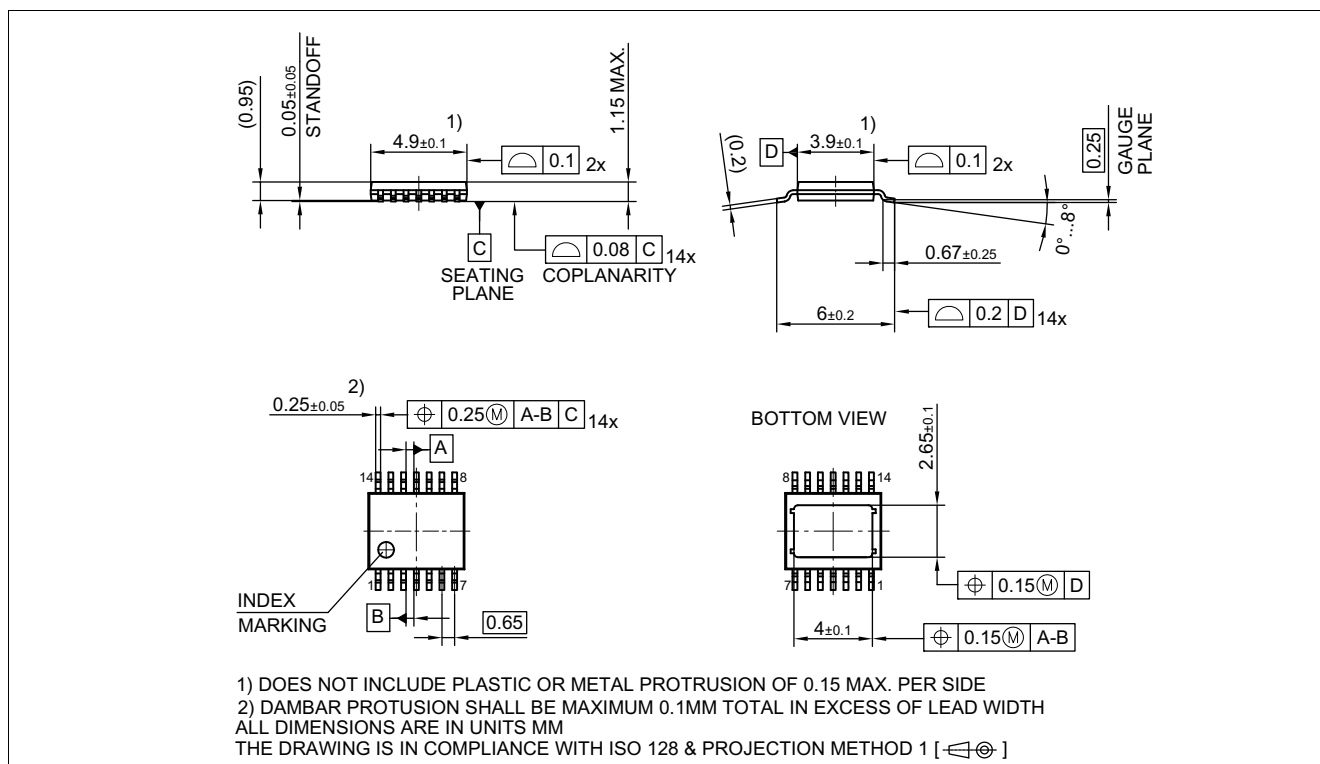
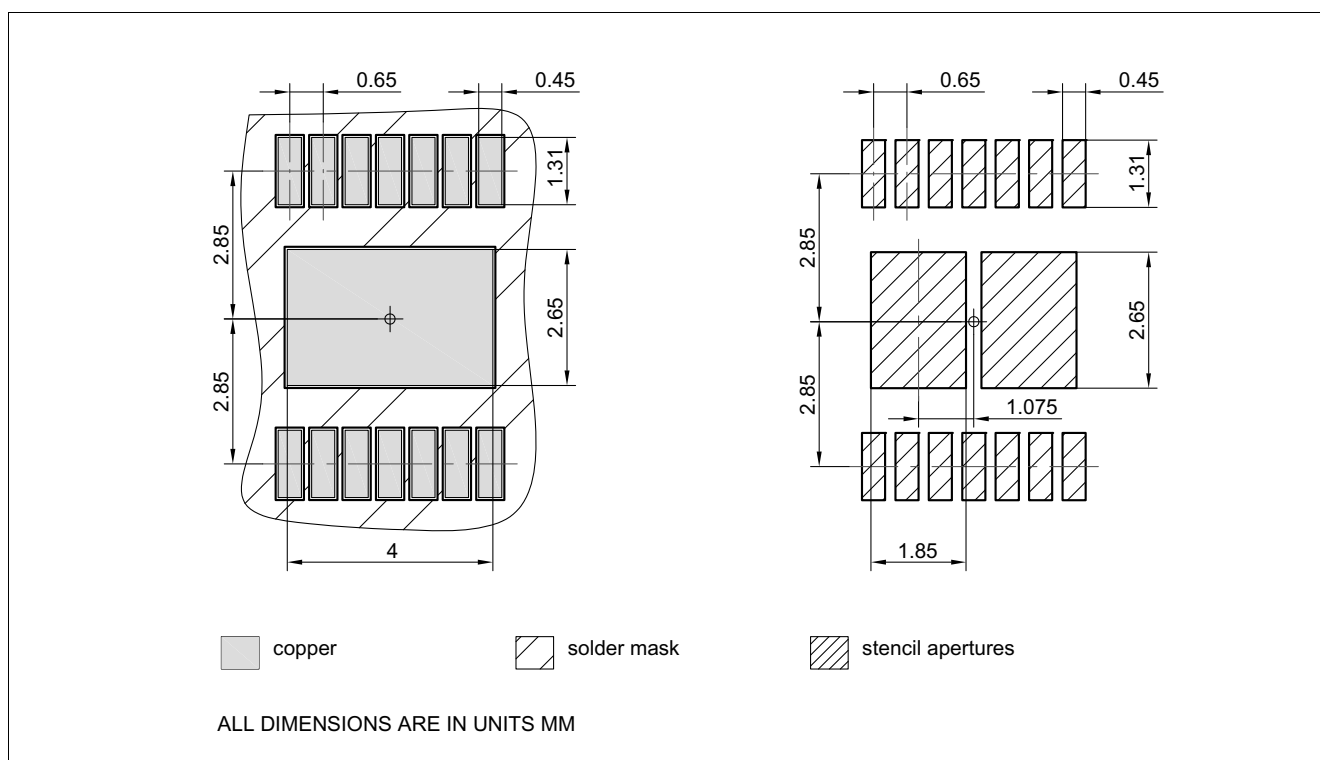

Figure 44 PG-TSDSO-14 (Thin (Slim) Dual Small Outline 14 pins) Package Outline
Figure 45 PG-TSDSO-14 (Thin (Slim) Dual Small Outline 14 pins) Package pads and stencil
1.03 , 2018-10-18	Chapter 9.3.1 updated (typo) Page 1: updated (Package PG-TSDSO-14-22 $\rightarrow$ Package PG-TSDSO-14) Figure 29 updated Figure 44 updated (PG-TSDSO-14-22 (Thin (Slim) Dual Small Outline 14 pins) Package Outline $\rightarrow$ PG-TSDSO-14 (Thin (Slim) Dual Small Outline 14 pins) Package Outline) Figure 45 updated (PG-TSDSO-14-22 (Thin (Slim) Dual Small Outline 14 pins) Package pads and stencil $\rightarrow$ PG-TSDSO-14 (Thin (Slim) Dual Small Outline 14 pins) Package pads and stencil) Table 1 updated ((Symbol: $I_{\text{VS(SLEEP)}}$ $\rightarrow$ $I_{\text{VS(SLEEP)_85}}$), (Parameter: Minimum Overvoltage protection ($T_J = 25\text{ °C}$) $\rightarrow$ Minimum Overvoltage protection ($T_J \geq 25\text{ °C}$)) P_9.6.0.6 updated (Note or Test Condition: removed unnecessary line-break) Chapter 7.4.1 updated chapter title (PROFET $\rightarrow$ PROFET™) Table 12 updated table title (PROFET $\rightarrow$ PROFET™) Chapter 8.6.1 updated chapter title (PROFET $\rightarrow$ PROFET™) Table 16 updated table title (PROFET $\rightarrow$ PROFET™) Chapter 9.5.1 updated chapter title (PROFET $\rightarrow$ PROFET™) Table 21 updated table title (PROFET $\rightarrow$ PROFET™) P_4.1.0.21, P_4.1.0.22, P_4.1.0.23, P_4.1.0.24 updated (footnote ESD standards) Table 1 updated ($R_{\text{DS(ON)}}$ $\rightarrow$ $R_{\text{DS(ON)_150}}$), ($V_{\text{DS(CLAMP)}}$ $\rightarrow$ $V_{\text{DS(CLAMP)_25}}$) Chapter 8.5.2 updated phrasing P_7.5.3.14 Table subheading "Switching Energy" added P_7.5.3.15 Table subheading "Switching Energy" added Chapter 6.4 added conditions Chapter 7.5 added conditions P_7.5.3.14 updated (Test condition: add "See Figure") P_7.5.3.15 updated (Test condition: add "See Figure") Chapter 8.7 added conditions Chapter 9.6 added conditions P_9.7.3.27 updated (Test condition: add "See Figure") P_9.7.3.29 updated (Test condition: add "See Figure") Chapter 7.3.1 typo corrected (link to Figure 19 added)